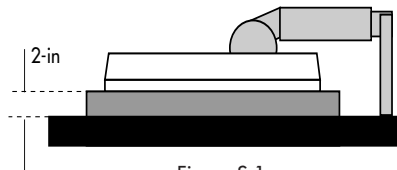

Figure S.1
3. Place monitor face down on a non-abrasive surface. (Place the screen on a 2-inch platform so that the stand is parallel with the surface.) (**Figure S.1**)